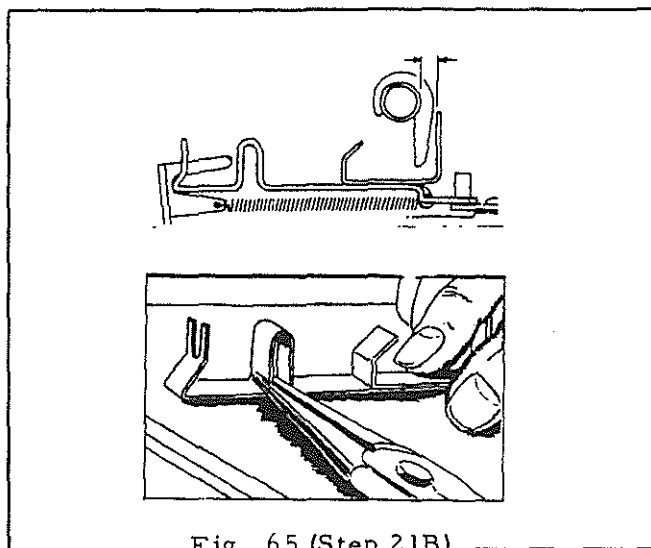

Fig. 65 (Step 21B)
STEP 21B. A limited number of Pumps incorporate the old style single piece linkage hook shown in Fig. 65. Adjustment may be made as follows: